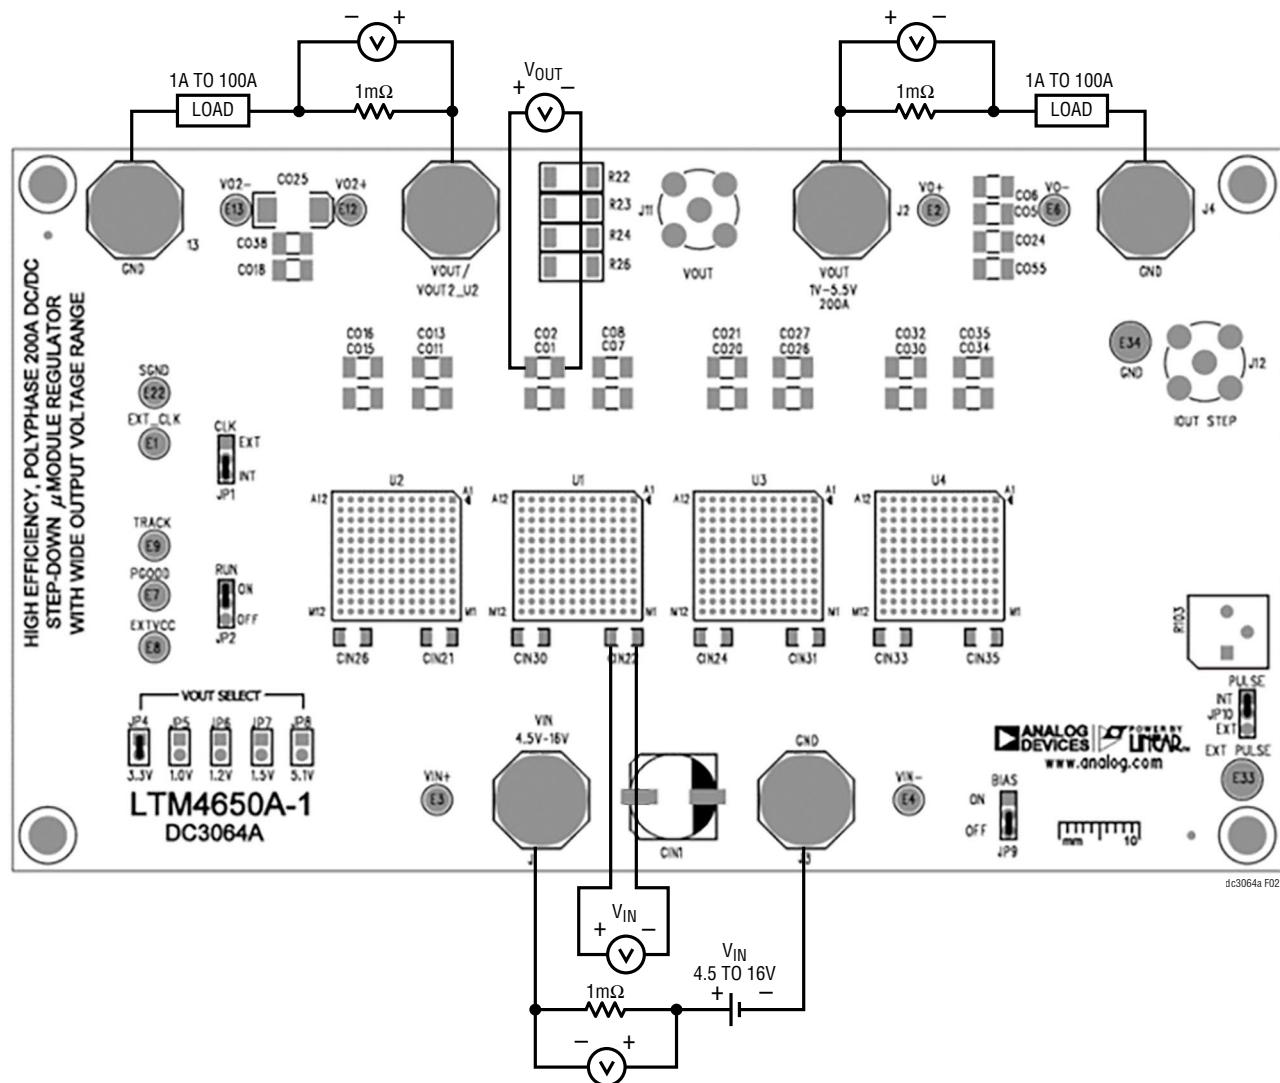

Figure 2. Proper Measurement Equipment Setup
Demonstration circuit 3064A is easy to set up to evaluate the performance of PolyPhase operation of the LTM4650AEY-1. Due to the high input/output current, user should select the proper input supply/load/cable which can sustain the full load operation. It's recommended to split load current evenly between J2/J4 and J13/J14. Please refer to Figure 2 for proper measurement setup and follow the procedure below.
2. With power off, connect the input power supply, load and meters as shown in Figure 2. Preset the load to 0A and V_{IN} supply to 12V.